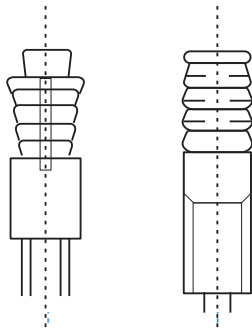

Figure 3.2
- Determine the location on the ceiling of the room or building roof for mounting, and drill four  $\Phi 12$  mm X 50-55 mm holes. Then embed and set up the expansion hook anchors (purchased accessory 2) in these holes. See Figure 3.2.